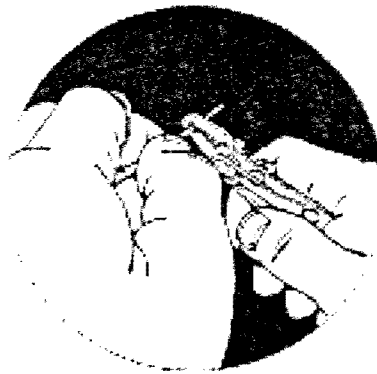

Fig. 2
Step 2. (Fig 2) Close the tool squarely around the fiber.